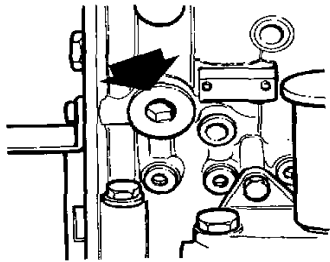

Fig. 118
3. Remove the socket-head plug and washer, so that the lifter for no. 1 cylinder is visible (fig. 118).